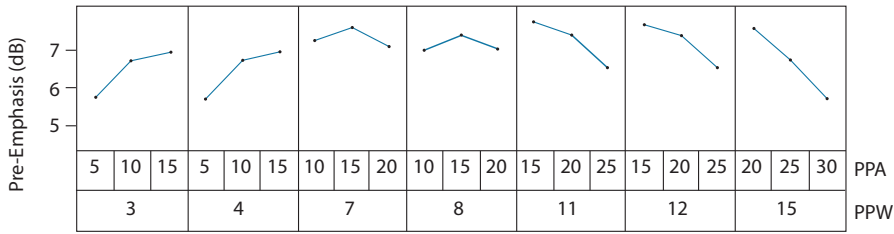
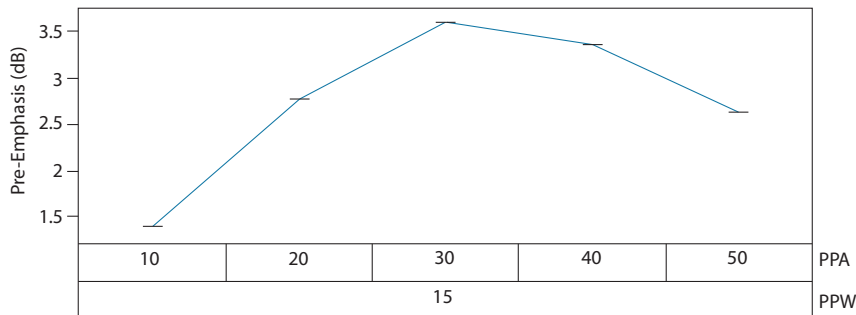

Figure 4-10: Pre-emphasis settings for VCCO__n = 1.2V and DS = 7 (swing = 200mVpp)
Figure 4-17: Pre-emphasis settings for VCCO__n = 2.5V and DS = 35 (swing = 800mVpp)
The only requirement of the trace driver pre-emphasis settings is to minimize ISI introduced by a lossy link and maximize the eye opening at the receiver. The Pre-emphasis compensation of the GS12241 output channel is a two-step process. The first step is to use the settings from Figure 4-10 to Figure 4-17 that best match the insertion loss of the link in the application, while the second step is a fine optimization procedure.
1. Pre-emphasis Amplitude (PPA) Optimization: Set the PPA and PPW to the values obtained from the graph selected out of Figure 4-10 to Figure 4-17, and then measure the downstream jitter. While keeping PPW constant, increment the PPA by 'a'. If the jitter is lower after the first increment, continue to increment by 'a' until the jitter begins increasing or a setting of 50 is reached. If there was a setting which resulted in a lower jitter measurement than the initial setting, that is the Optimized Pre-emphasis Amplitude setting: PPA_{Optimal}, and the PPA optimization procedure is complete.
If incrementing the PPA or decrementing the PPA did not result in a setting with lower jitter, then the initial setting obtained from the graph selected out of Figure 4-10 to Figure 4-17 is the PPA optimized Pre-emphasis Amplitude setting: PPA_{Optimal}.
2. The second step is to set the PPA to the optimized setting PPA_{Optimal} determined in step 1 and PPW to the values obtained from the graph selected out of Figure 4-10 to Figure 4-17, then measure the downstream jitter. While keeping PPA constant, increment the PPW by 'w'. If the jitter is lower after the first increment, continue to increment by 'w' until the jitter begins increasing or a setting of 15 is reached. If there was a setting which resulted in a lower jitter measurement than the initial setting, that is the Optimized Pre-emphasis Width setting: PPW_{Optimal}, and the optimization procedure is complete.
If incrementing the PPW or decrementing the PPW did not result in a setting with lower jitter, then the initial setting value obtained from the graph selected out of Figure 4-10 to Figure 4-17 is the optimized Pre-emphasis Width setting: PPW_{Optimal}.